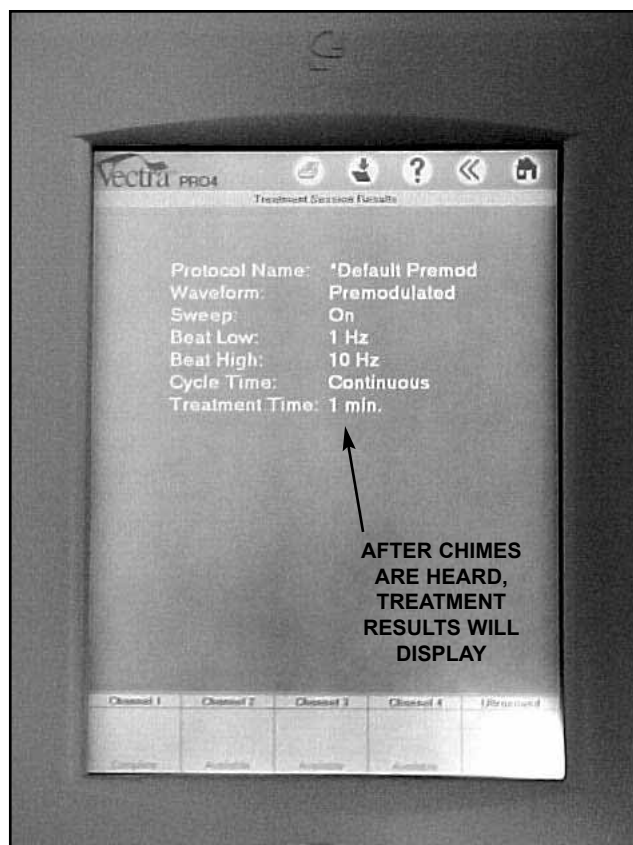

FIGURE 5.20
7. Press “Start” and allow timer to zero. Chimes should be heard indicating end of treatment and the screen will display treatment results. See Figure 5.20.